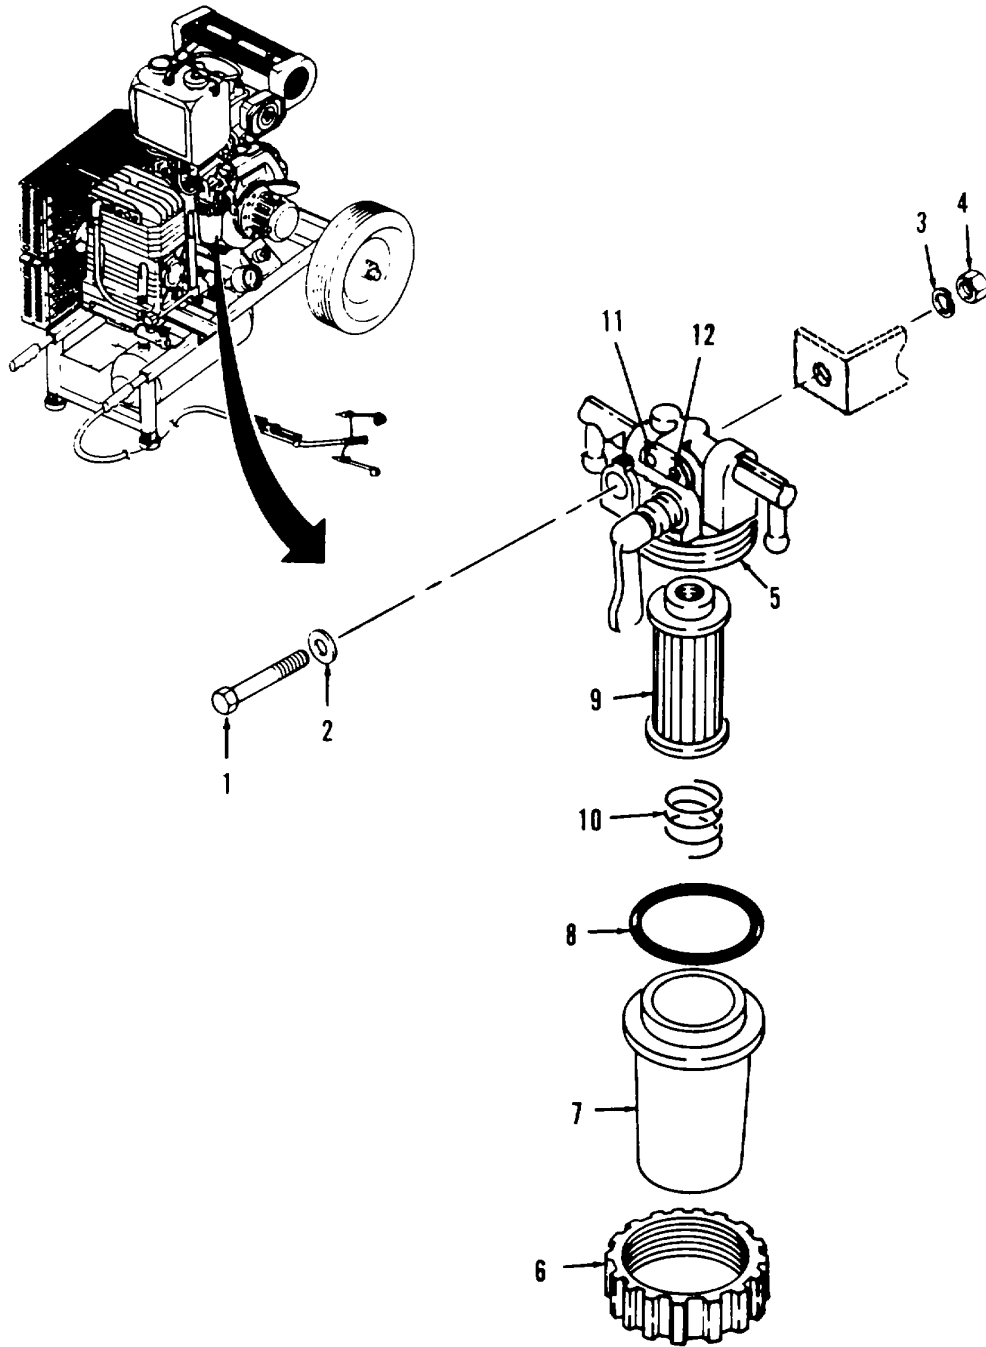

Figure 4-9. Fuel Filter Repair and Replacement.
a. Removal (Refer to Figure 4-9).
- (1) Remove screw (1), flat washer (2), lock washer (3), and nut (4).
- (2) Remove fuel filter (5) from unit.